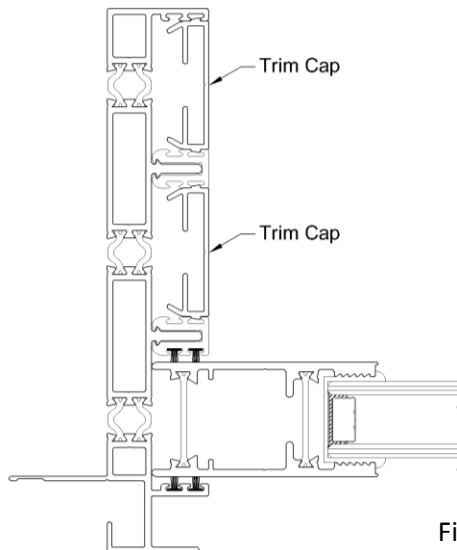

Figure 14d
25. Install the 2 remaining trim caps into the interior jamb tracks shown in figure 14d.